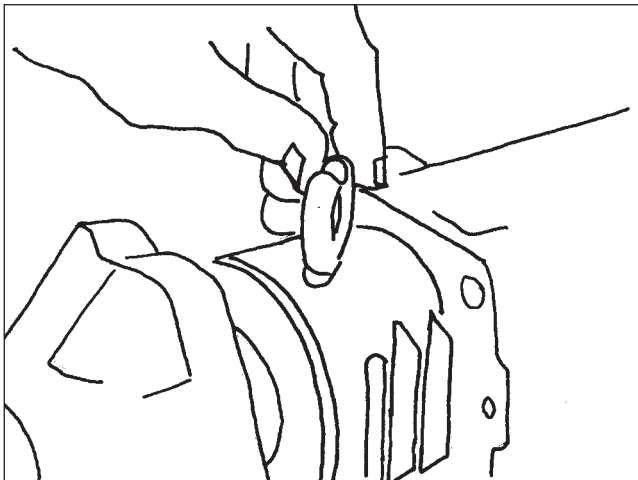

Figure 125
6. Install both halves of the ball guide into the ball guide cavity (**Figure 125**).